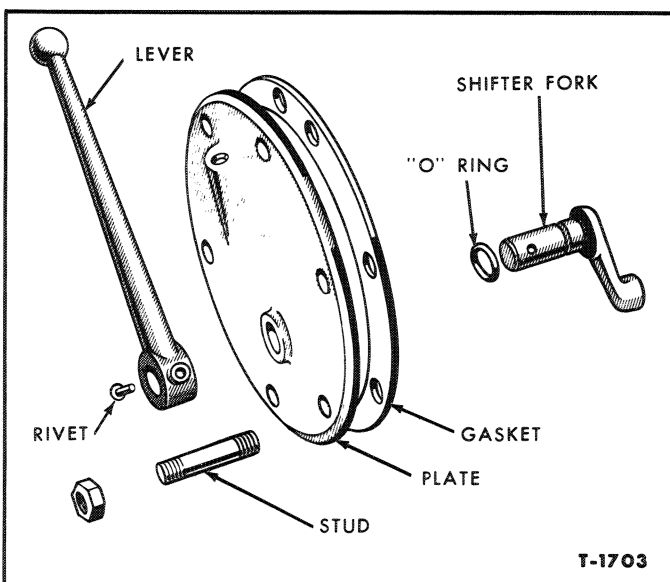

Figure 4—P.T.O. Shift Lever Assembly
2. Remove the shifter plate, Figure 4, and discard the gasket.
4. Inspect the shifter fork, Figure 4. If worn or damaged, remove the rivet and tap the fork out of the lever.
5. Dip a new "O" ring in oil and install it on the shifter. Install the shifter through the plate and lever, then rivet the shifter to the lever, Figure 4.